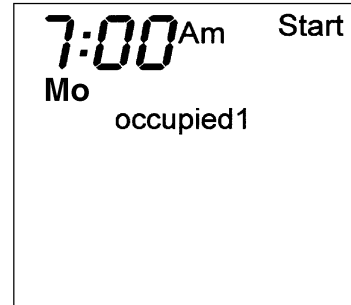

Fig. 4 — Start Time Display
7. The Start Time for Occupied 1 will be displayed. Use the UP ARROW or DOWN ARROW button to raise or lower the time until the desired Start Time is shown. Press the Mode button to continue. See Fig. 4.